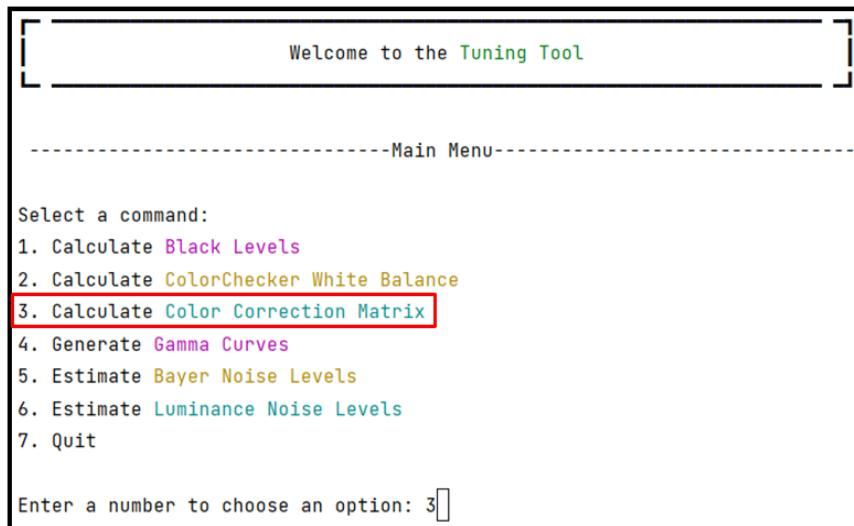

Figure 20: Selection of CCM from the main menu
- To start CCM module, choose 3 from the tuning tool main menu shown in Figure 20.